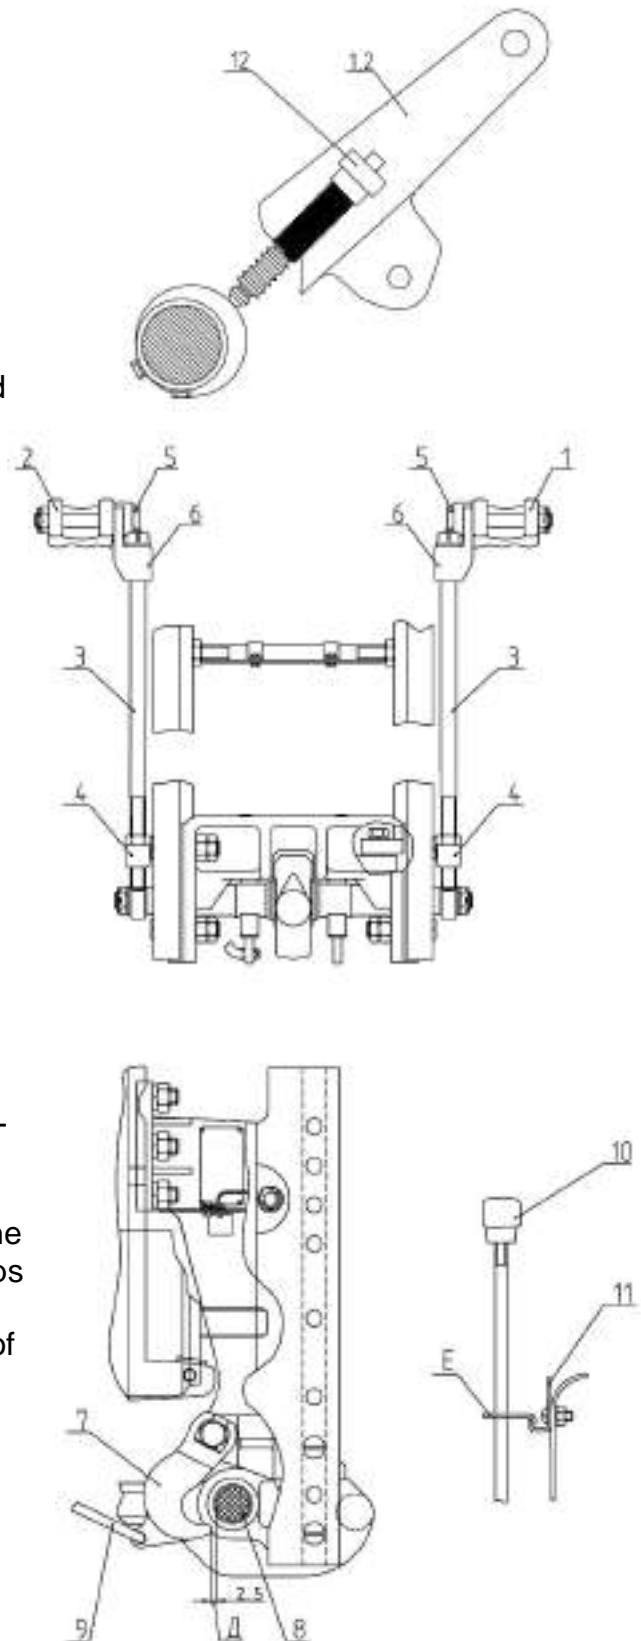

Fig. E-39
**ATTENTION!** Prior to beginning the work with semi-trailers as well as prior to each adjustment of the position sensor (in case of mounting of the EHR) determining the position of the lift levers (1) and (2) (see Fig. E-38), it is necessary to turn out the screws (3) (see Fig. E-39) from the shackles (4) to ensure the free travel of the levers to avoid breakage of pins (5) of the angle braces.